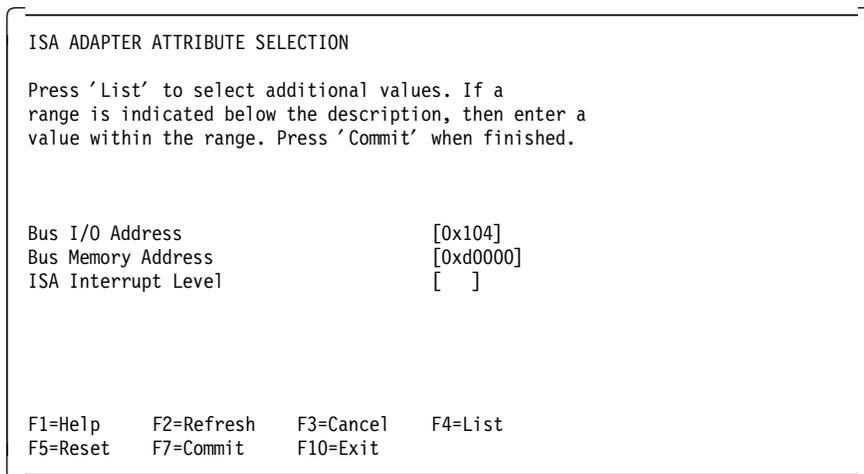

Figure 58. ISA Adapter Attribute Selection Diagnostic Menu
7. Enter the parameters, as requested, as shown in Figure 58. For our 8-port card, we only had to enter the Bus I/O Address.